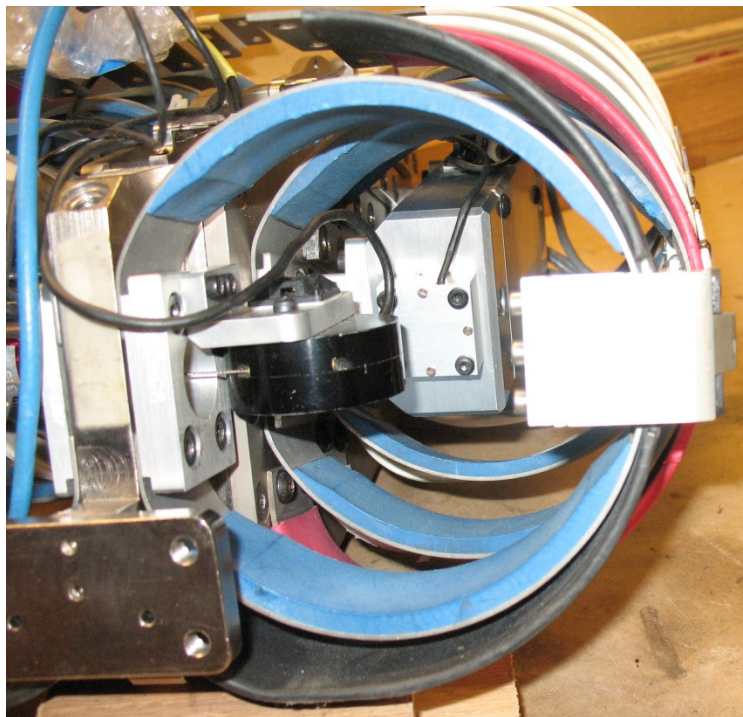

Figure 31. Shoulder string pot mounted on non-struck side of dummy
- Figure 31 shows the string pot mounted on the non-struck side of the dummy.